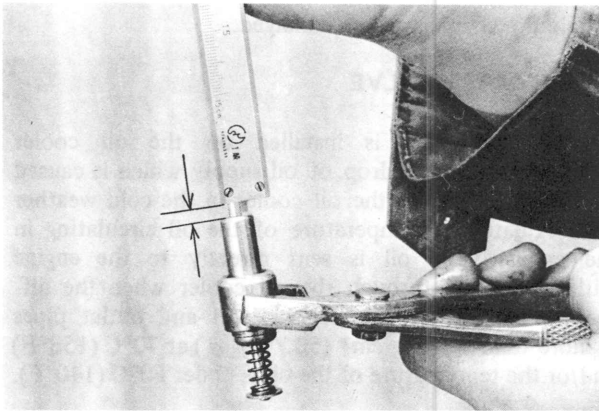

Fig. 2-15 Checking by-pass valve
2. Soak the by-pass valve in hot oil of 75°C ~ 80°C (167°F ~ 176°C). If the protrusion of piston is more than 5 mm (0.2 in), the by-pass valve is normal. (Fig. 2-15)